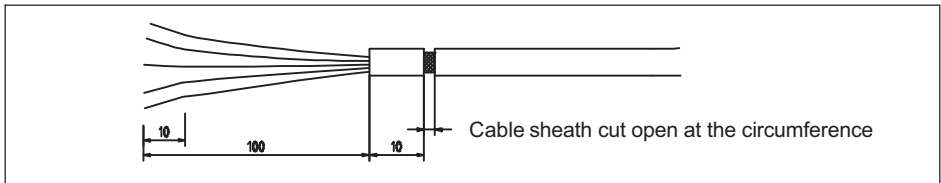

Fig. 4.2 Notched cable sheath
1. The shield can be accessed through a notch in the cable sheath (see Fig. 4.2).